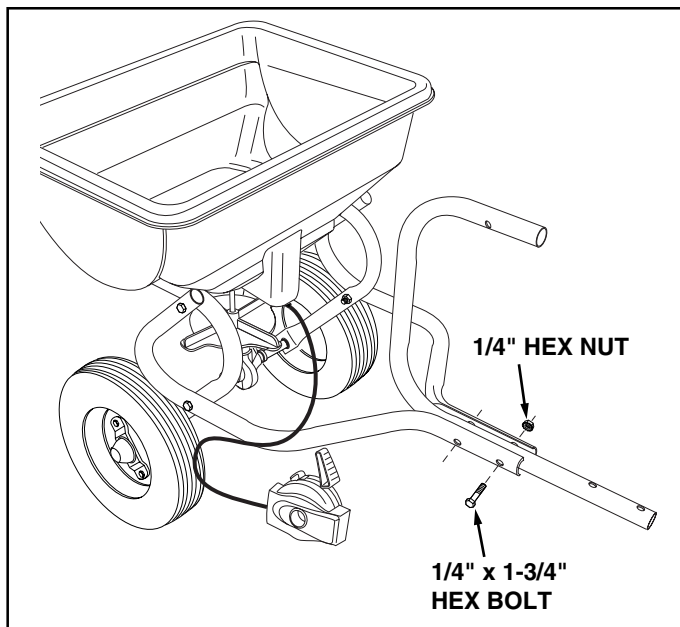

FIGURE 2
3. Assemble the Hitch Control Tube between the Hitch Tubes using two 1/4" x 1-3/4" hex bolts and 1/4" hex nuts. **Tighten all bolts and nuts.** See figure 2.